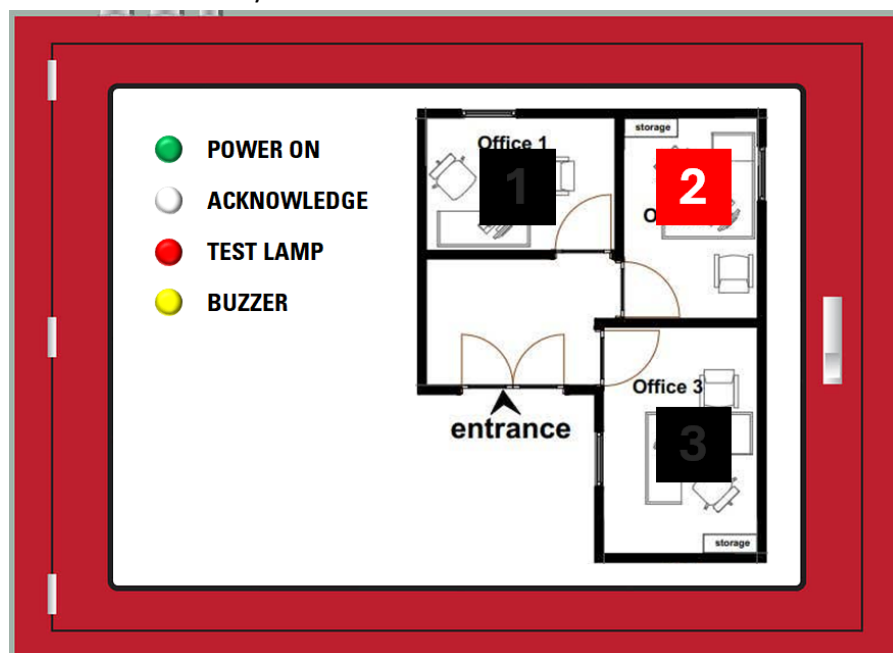

Figure 4: FACP Panel, showing a fire in OFFICE 2.
- The sample used for collection is a small box with two bars on top, a groove around the outside, and a small Velcro patch (soft side), see Figure 4(a). It is approximately 100 L x 45W x 20H mm and 50 grams. The sample cannot be modified by the team.